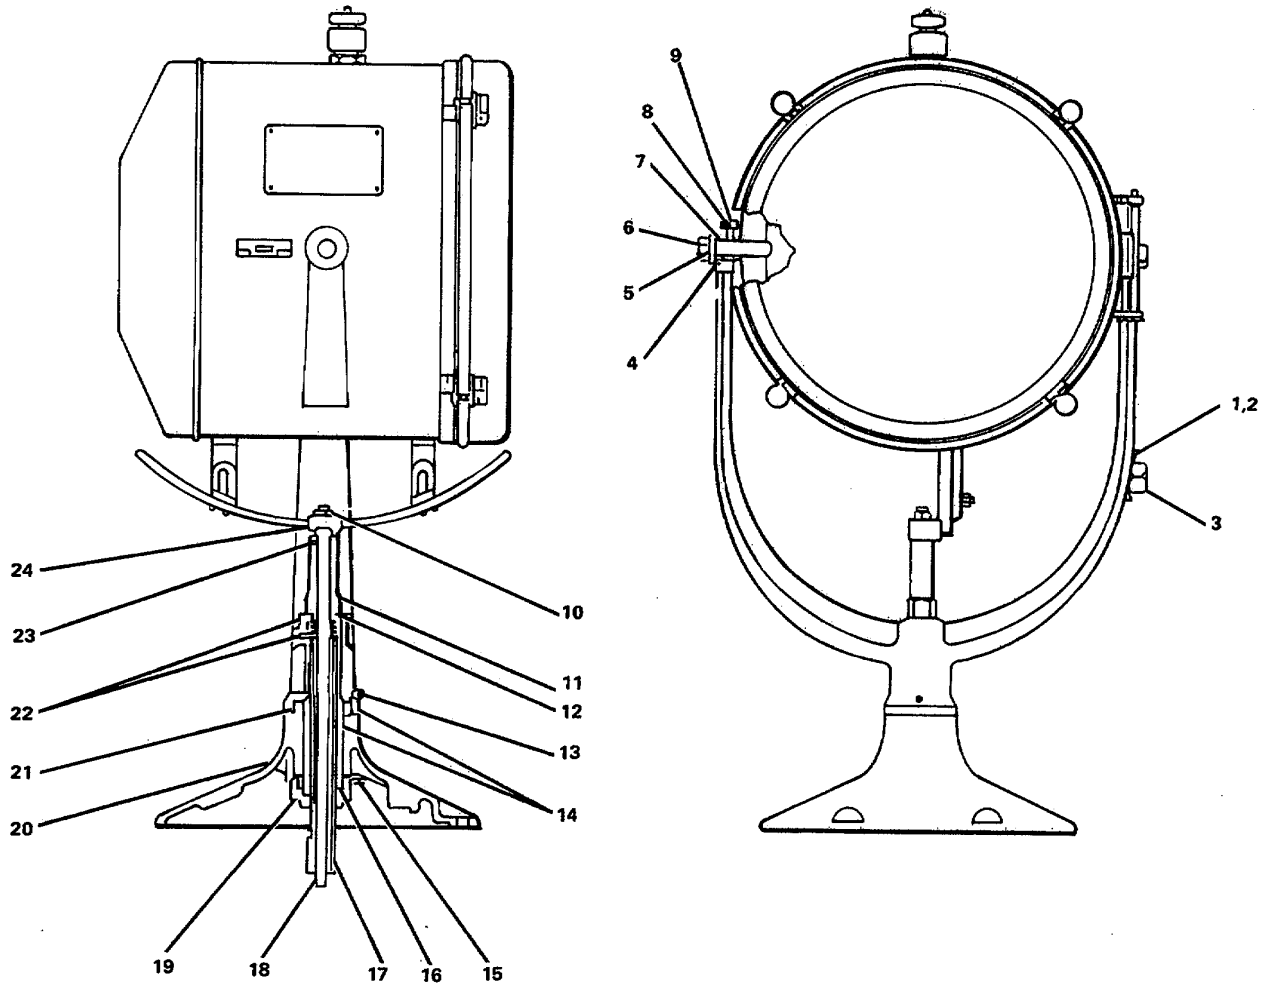

FIGURE 3-52. Searchlight Manual Control.
- b. Install mounting bolts (34).
**3-51. Repair Searchlight Manual Lever Control. (Figure 3-52)**